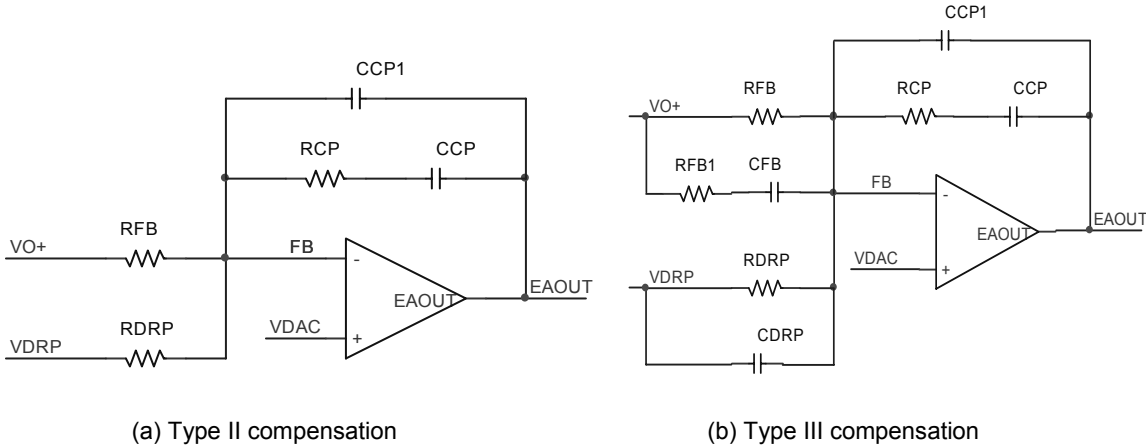

Figure 17. Voltage loop compensation network
Resistors R_{FB} and R_{DRP} are chosen according to Equations (16) and (17), and the selection of compensation types depends on the output capacitors used in the converter. For the applications using Electrolytic, Polymer or AL-Polymer capacitors and running at lower frequency, type II compensation shown in Figure 17(a) is usually enough. While for the applications using only ceramic capacitors and running at higher frequency, type III compensation shown in Figure 17(b) is preferred.
For applications where AVP is not required, the compensation is the same as for the regular voltage mode control. For converter using Polymer, AL-Polymer, and ceramic capacitors, which have much higher ESR zero frequency, type III compensation is required as shown in Figure 17(b) with R_{DRP} and C_{DRP} removed.